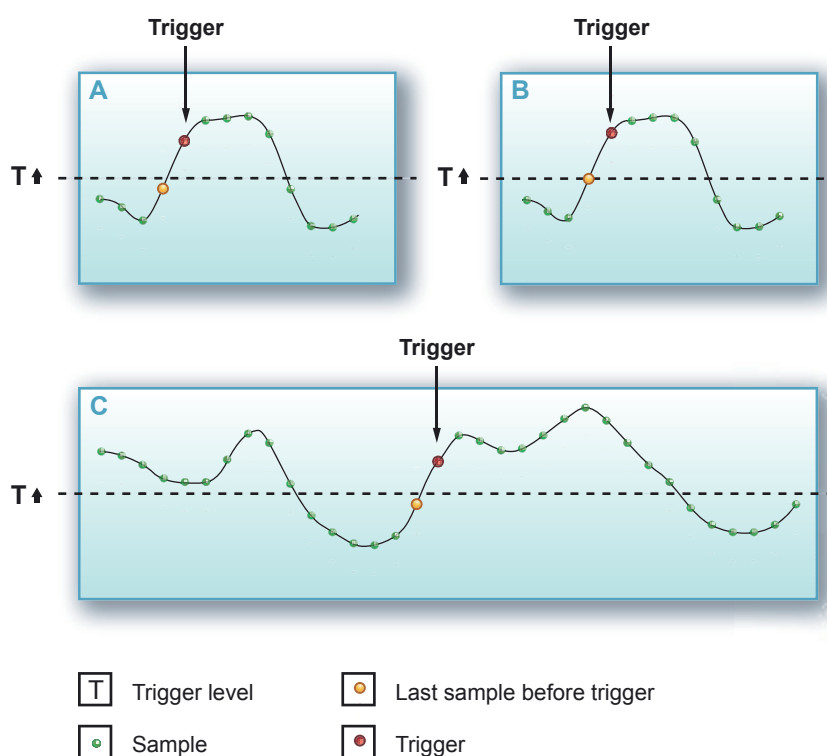

Figure 10.2: Level crossing detector
Figure 10.2 shows the basic trigger mode with a specified level (T) and a level crossing in a positive direction. In Figure 10.2 (A), the trigger occurs on the first sample after the level crossing. Figure 10.2 (B) shows the situation in which a sample equals the set level. Trigger does not occur until a sample is actually above the required level.
Since the trigger detector requires a level crossing, no trigger occurs when a signal is above the set level when recording starts. This is depicted in Figure 10.2 (C).